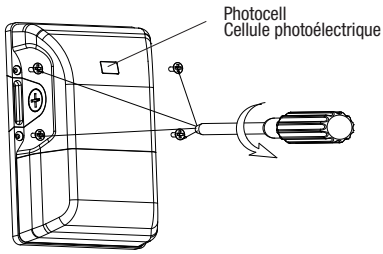

Fig. 1B
1. Unscrew the four screws (Fig. 1B).
1. Dévisser les quatre vis (Fig. 1B).